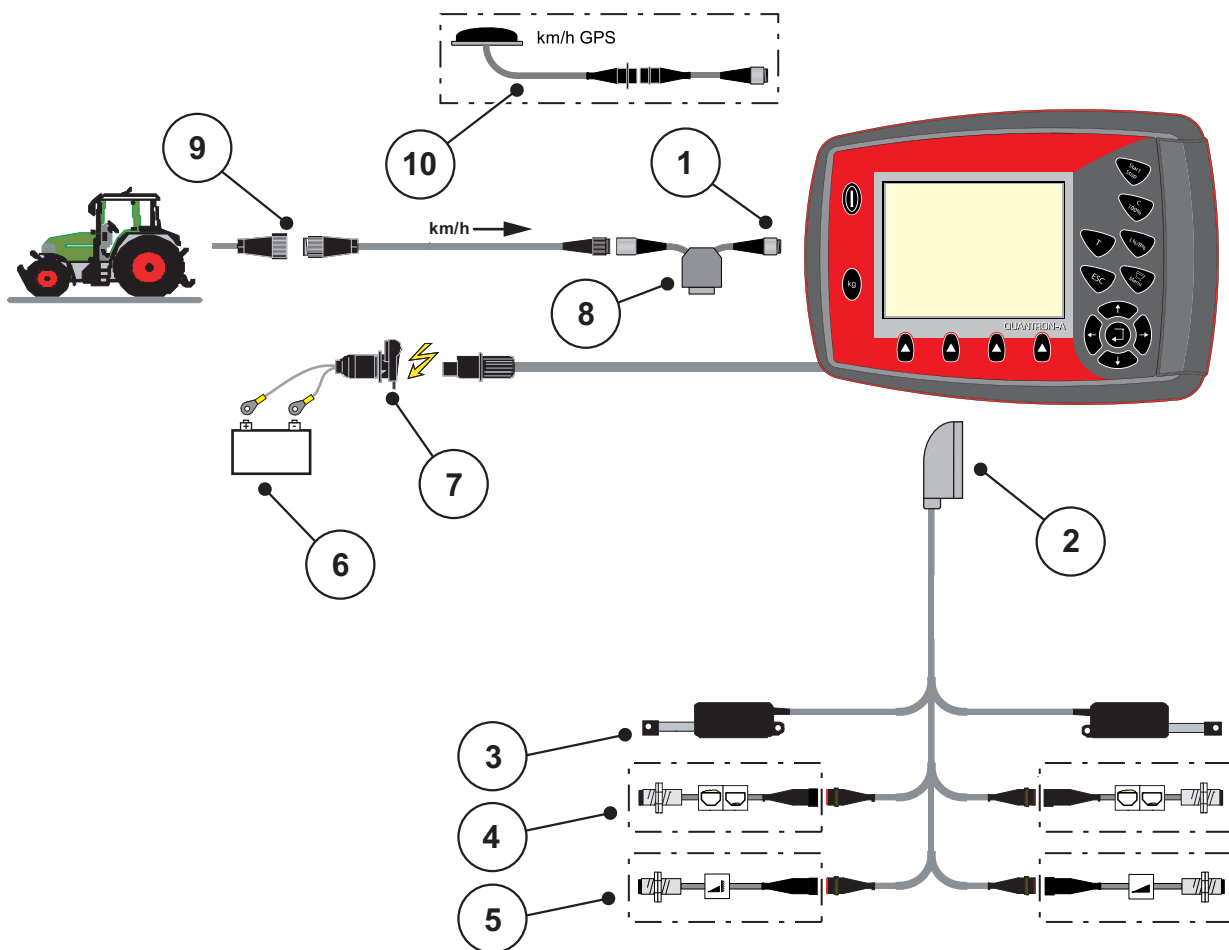
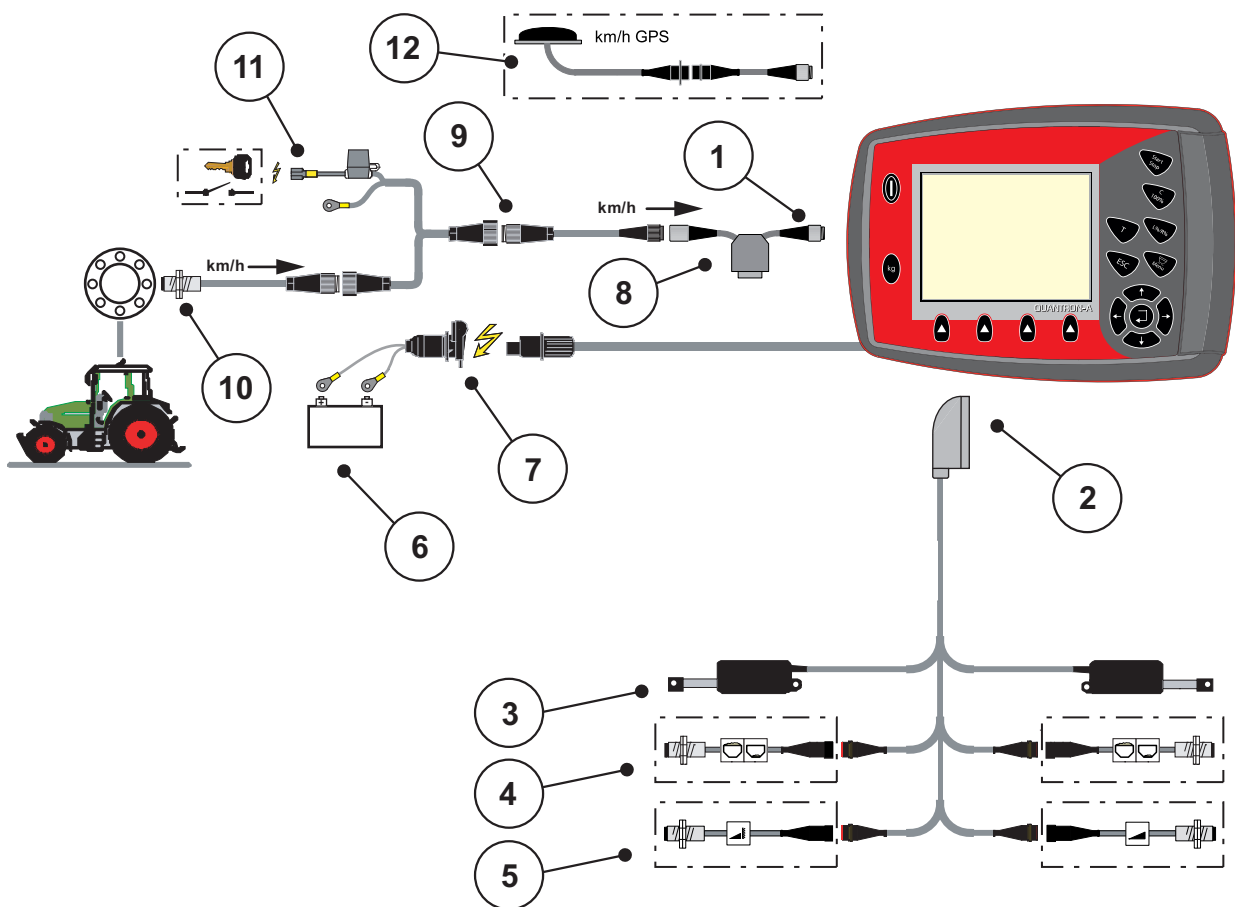

Figure 3.3: Standard schematic connection diagram QUANTRON-A
Figure 3.5: Schematic connection diagram QUANTRON-A (power supply via ignition lock)
The 7-pin socket for the tractor and the forward speed sensor can be obtained as an expansion kit (option), see figure 3.3 to figure 3.5.
- Connect the control unit to the 7-pin socket or to the forward speed sensor (depending on the equipment, see figure 3.3 to figure 3.5).